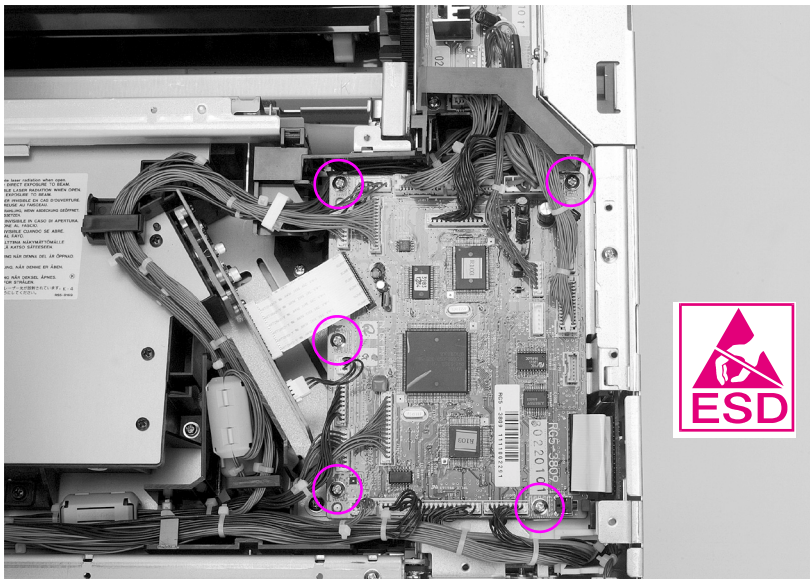

Figure 6-15 DC controller removal and replacement
- 5 Remove the five screws from the DC controller shown in Figure 6-15.